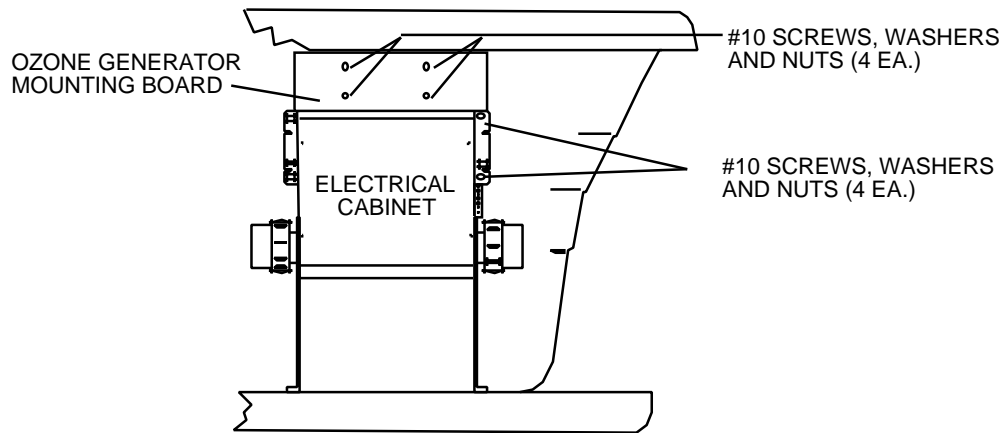

FIGURE 3 - MOUNTING BOARD
- Install the ozone generator according to the manufacturer's instructions. Attach the ozone generator mounting board to the electrical cabinet, using the #10 screws, washers and nuts (4 each) provided. Several commercially available ozone generators will fit easily in this location. Attach the ozone generator to the board using the #10 screws, washers and nuts provided. See Figure 3.